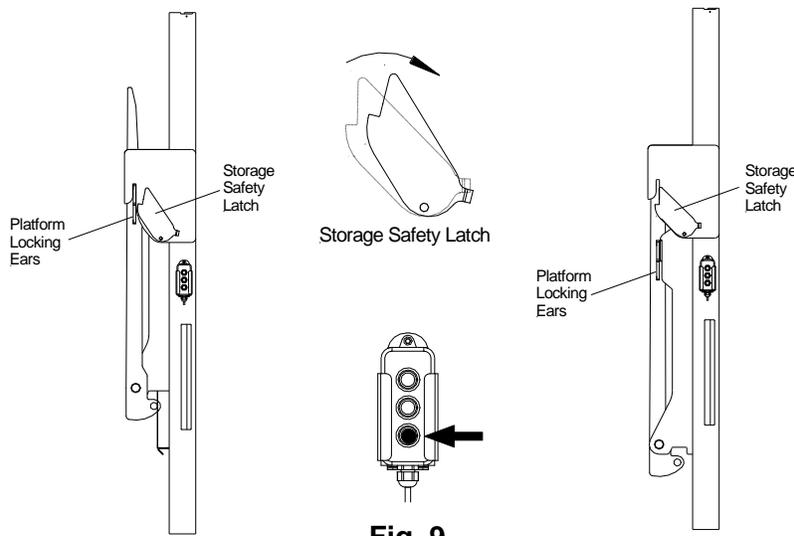

Fig. 9
2. Clear the platform sliding path by moving the storage safety latch manually. Hold the safety latch down manually with one hand and press the **Down** button on the control with the other hand until the platform locking ears clear the storage safety latch, **Fig. 9**. Release the safety latch back to its original place.